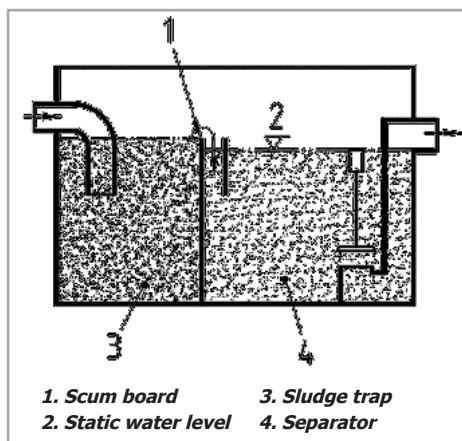

fig.1: Simple static separator with sludge trap
- **Class I** separators: residual hydrocarbon content less than 5mg/l after the separation process. These are mostly coalescent and lamellar separators. (see fig. 1)